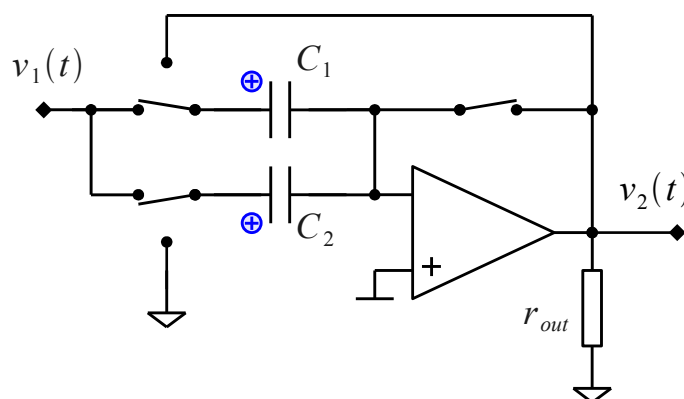

Figure 8.4.1: A switched capacitor circuit.
- Derive the transfer function of the switched capacitor circuit shown in Figure 8.4.1, i.e. $V_2(z)/V_1(z)$. Assume that the operational transconductance amplifier is ideal.